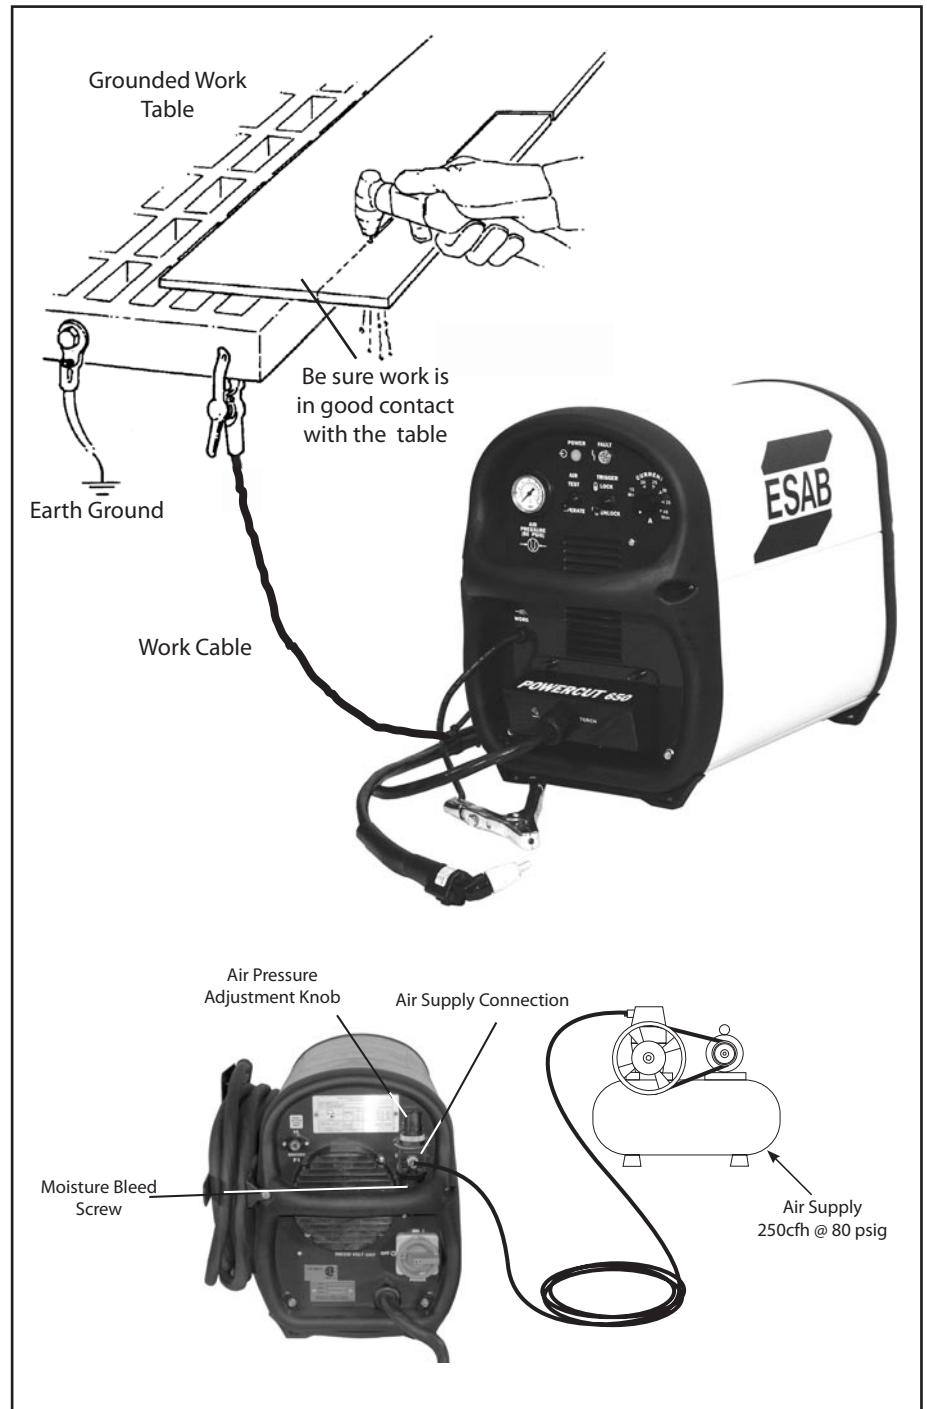

Figure 3.3 Secondary Connections Diagram
3.5 SECONDARY CONNECTIONS (REFER TO FIG. 3.3)